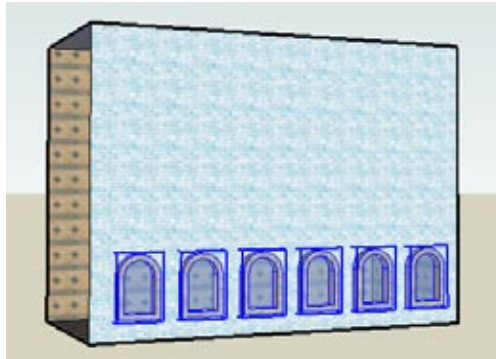

Figure 1-11
- When your row of windows looks right, you can copy the entire row. The Move tool will actively select only one object at a time, so when you want to copy multiple objects, you must first preselect the objects. Activate Select and select all of the windows in the row, as shown in Figure 1-11. (Holding the Shift key enables you to select multiple objects.)